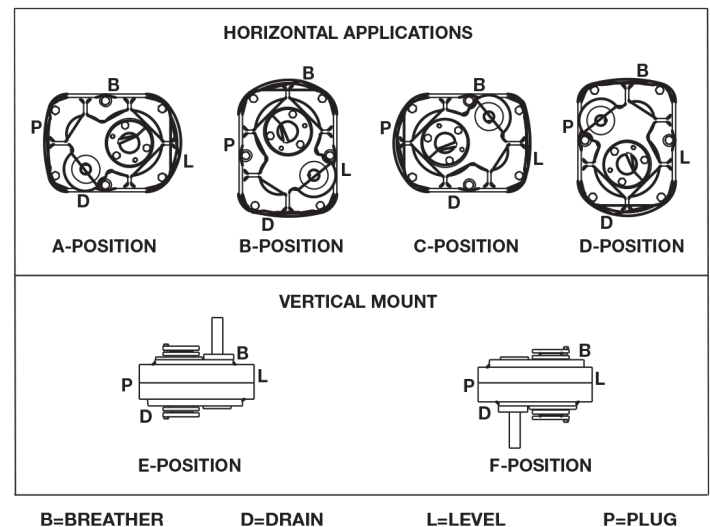

Figure 1 - Mounting Positions
2. Determine the running position of the reducer (Figure 1). Note that the reducer housing has been machined for pipe plugs around the sides of the reducer for horizontal applications and in each face for vertical applications. The plugs must be arranged relative to the running position as follows:
The running position of the reducer in a horizontal application is not limited to the four position shown in Figure 1. However, if running position is over 20° in position “B” and “D” or 5° in position “A” and “C” either way from sketches, the oil level plug cannot be safely used to check the oil level, unless during the checking the torque arm is disconnected and the reducer is swung to within 20° for position “B” or “D” or 5° for position “A” or “C” of the positions shown in Figure 1. Because of the many possible positions of the reducer, it may be necessary or desirable to make special adaptations using the lubrication fitting holes furnished along with other standard pipe fittings, stand pipes and oil level gauges as required.
① Oil quantity is approximate. Service with lubricant until oil runs out of oil level hole.
② Refer to Figure 1 for mounting positions.
③ US measure: 1 quart = 32 fluid ounces = .94646 liters.
④ Below 20 RPM output speed, oil level must be adjusted to reach the highest oil level plug (P). If reducer position is to vary from those shown in Figure 1, either more or less oil may be required. Consult Product Support, Simpsonville, SC.